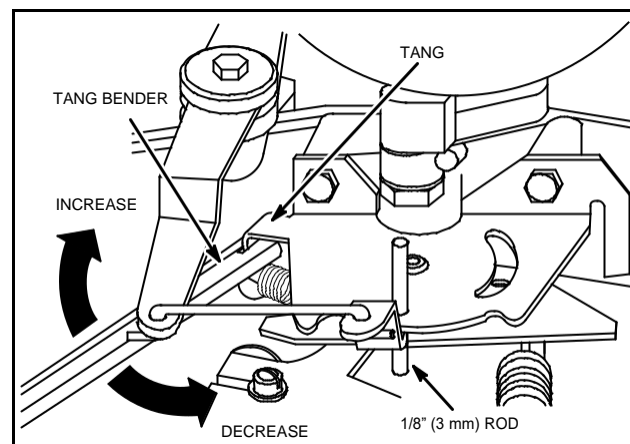

Fig. 40 – Adjust Governed Idle
1. Turn speed regulator nut counterclockwise until a 1/8" (3 mm) rod can be inserted through two (2) holes in governor control plate, Fig. 40.